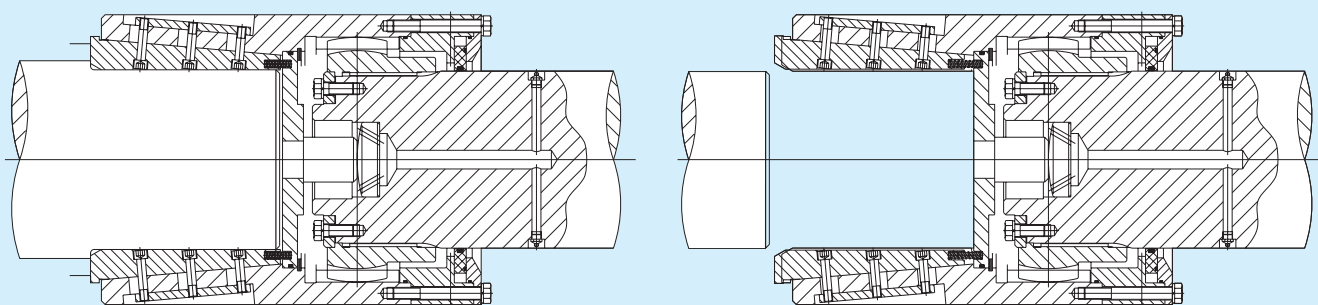

Fig. 5 Automatic locking key
4) Automatic tapered keys, fig.5 are the best device for tight sleeve-to-roll connection with ease of roll removal and replacement. It consists of a pair diametrically opposed tapered keys which are snugly scated against the spade flats when a roll is inserted, but which follow the roll neck for a limited distance during removal and produce ample clearance across the flats for roll removal and re-entry.